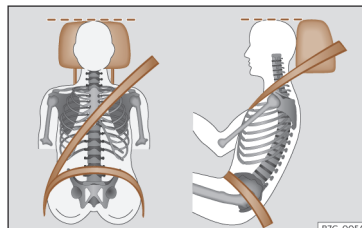

Fig. 3 Correct belt web and headrest positions
- Adjust the headrest so that its upper edge is at the same level as the top of your head, or as close as possible to the same level as the top of your head and under no circumstances below eye level. Keep the back of your neck as close as possible to the headrest»» Fig. 3.